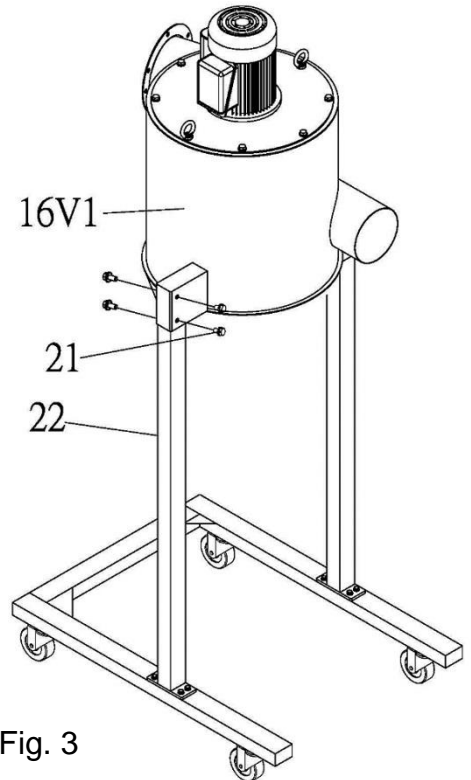

Fig. 3
5. Using an assistant, lift up the main housing (NO.16V1) then place on the stand (NO.22). Using the Flange bolt Screw 5/16" x 1/2" (NO.21) to tighten together. See (FIG.3).